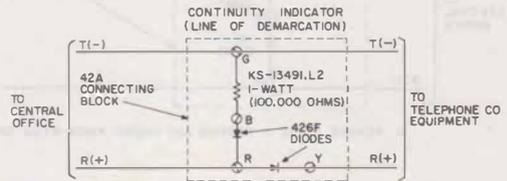

Fig. 22—DC Telegraph Loop Continuity Indicator—TCM Equipment, Neutral Operation
- (e) The 426F diode(s) used in the dc telegraph loop continuity indicator (Fig. 22, 23, 24, 25, and 26) must be connected, as shown, to ensure correct polarity.